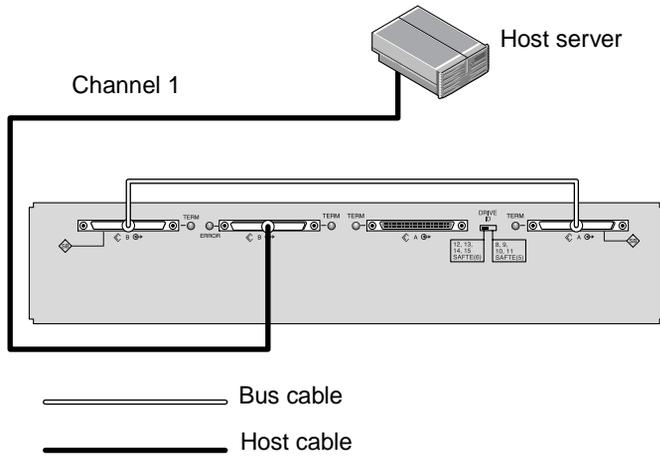
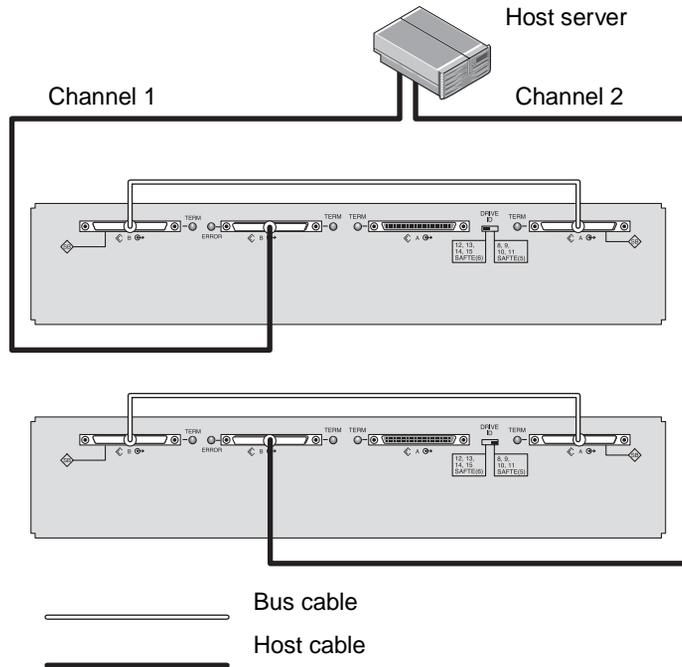
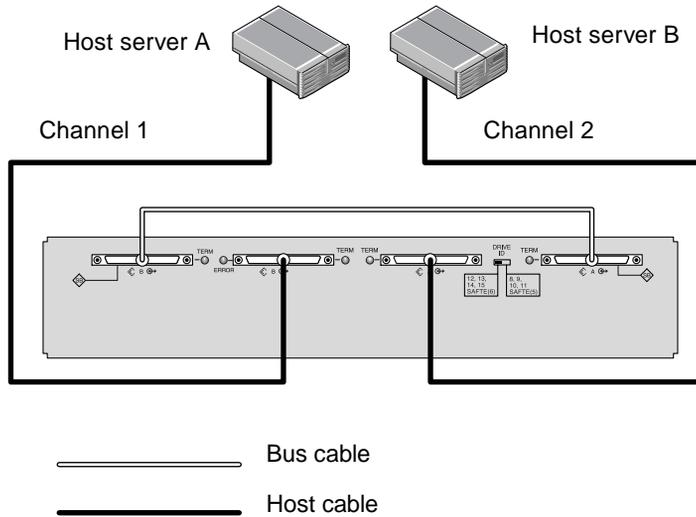

FIGURE 2-8 JBOD Directly Connected to a Host (Single-Bus)
FIGURE 2-9 Multiple JBODs Directly Connected to a Host (Single-Bus)
FIGURE 2-10 JBOD Directly Connected to Two Hosts (Single-Bus)
2. Connect your JBOD array to a host server with SCSI cables as shown in FIGURE 2-8, FIGURE 2-9, or FIGURE 2-10.
In FIGURE 2-8, the host server is connected to port B Out. The following table shows the drive IDs for FIGURE 2-8.
In FIGURE 2-9, the host server is connected to port B Out. The following table shows the drive IDs for FIGURE 2-9.
In FIGURE 2-10, Host A is connected to port B Out and Host B is connected to port A In. The following table shows the drive IDs for FIGURE 2-10.